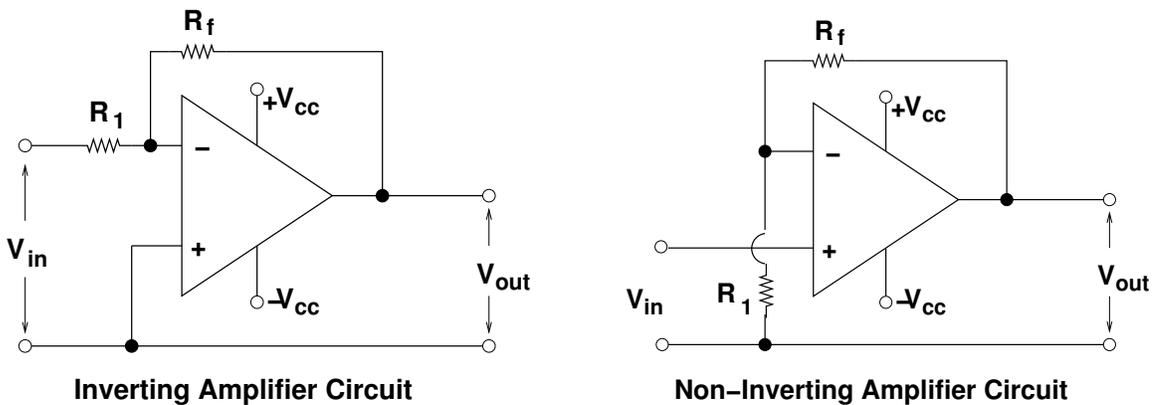

Figure 2: Circuits for inverting and non-inverting amplifier.
Basic circuits for inverting and non-inverting amplifier are schematically shown in Fig. 2. The gain of the inverting amplifier is simply given by
1. Set up the "inverting" configuration in Fig. 2, with $R_1 = 1K$ and $R_f = 10K$ (keep the offset-null switch off).
5. The same configuration can be modified to set up “non-inverting” amplifier. Connect the free end of R_1 (1) to ground and the non-inverting input terminal to ground. Use the same values of R_1, R_f as in the previous setup.